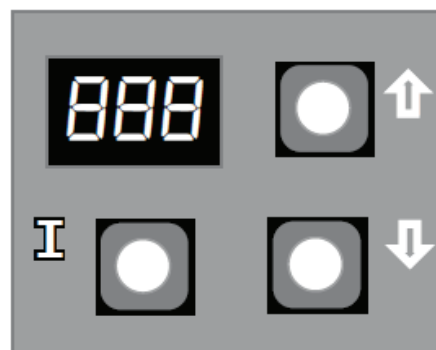

Figure 1 Control Display
The control is located on the front panel inside the boiler. The control display, along with Up ▲, Down ▼, and “I” keys may be used to view boiler operating status and program parameters (Figure 1).
1. Press with Up ▲, Down ▼, and “I” keys (see Figure 1) simultaneously for three seconds.